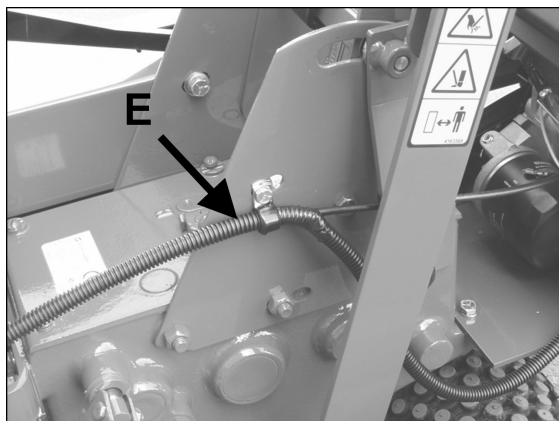

FIGURE 4
8. Route the convoluted tubing **E** along the handle, In tall tubing in clamp on side of gear case. (Figure 4)